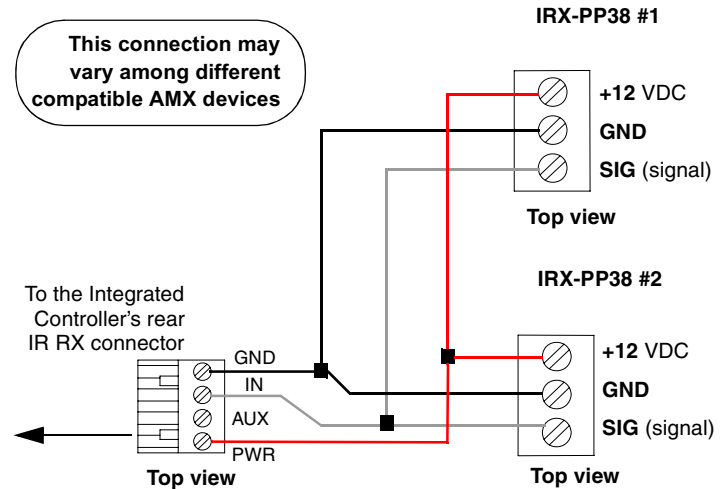

FIG. 2 Sample wiring diagram between NI Controller and multiple IRX sensors
The maximum wiring distance between the IRX and a target NI Controller (such as the NI-700 and NI-900) is **200 feet** (60.96 meters). FIG. 2 displays a sample wiring diagram which shows how you can wire a single Controller for communication to two separate IRX IR sensors.
2. Insert each wire into the appropriate opening on the IRX-PP38 connector according to the wiring diagrams and connector types described in FIG. 2. **Note:** Always match the wiring on each end of these connections. If you are using a red insulated wire to supply power on one connector, make sure you thread this same wire into the PWR connector at the other end.
3. Insert each wire into the appropriate opening on the NI's rear IR RX connector, according to the wiring diagrams and connector types described in FIG. 2.